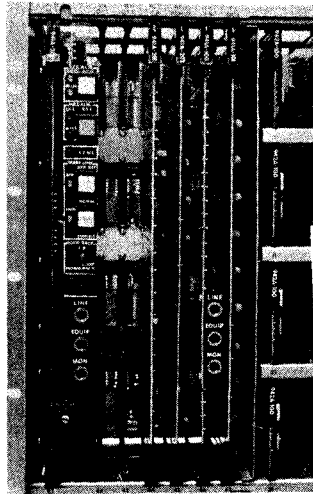

FIGURE 5
- 4.2 Line Driver (SB941A-100) Fig. 5 Position 46**
- 4.3 TX MUX (SB941A-101) Fig. 5 Position 47**
4.4 RX Line Couplers (SB941B-200 Fig. 5 Position 41
- 4.5 TX Time Base (SB941A-201) Fig. 5, Position 44**
- 4.6 RX DEMUX (SB941A-202) Fig. 5, Position 45**